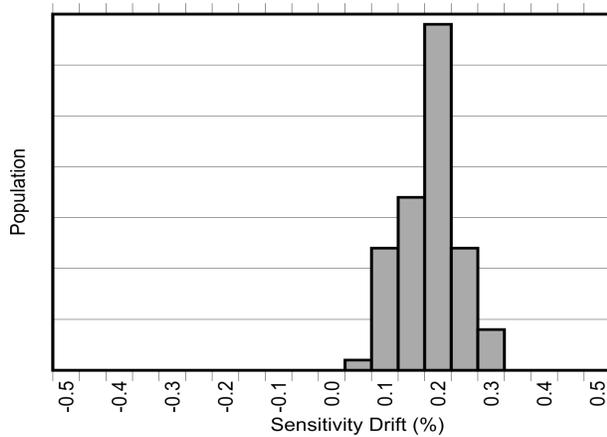
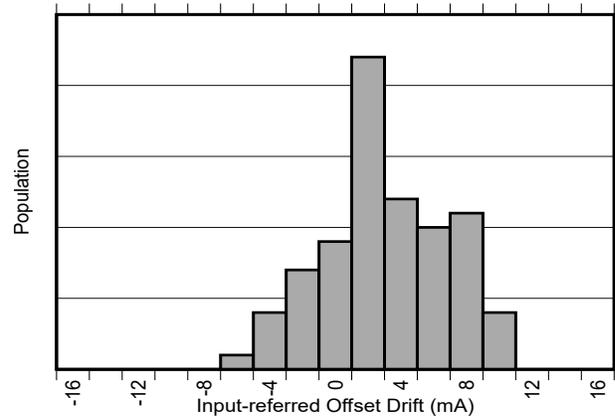

Figure 8-3. Sensitivity Error Drift After AEC-Q100 High Temperature Operating Life Stress Test
Figure 8-4. Input-Referred Offset Drift After AEC-Q100 High Temperature Operating Life Stress Test
In addition to large thermal drift, typical magnetic current sensors suffer an additional 2% to 3% drift in sensitivity due to aging over the lifetime of the device. The same proprietary compensation techniques used in the TMCS1133-Q1 to reduce temperature drift are also used to greatly reduce lifetime drift due to aging from stress and environmental conditions especially at high operating temperatures. As shown in the Electrical Characteristics, the TMCS1133-Q1 has industry leading lifetime sensitivity drift realized after Highly Accelerated Stress Tests (HAST) at 130°C and 85% relative humidity (RH) during standard three lot AEC-Q100 qualifications. Low sensitivity and offset drift within the bounds specified in the Electrical Characteristics are also observed after 1000 hour, 125°C high temperature operating life stress tests are performed as prescribed by AEC-Q100 qualifications. These tests mimic typical device lifetime operation, and show device performance variation due to aging is vastly improved compared with typical magnetic current sensors. Figure 8-3 and Figure 8-4 show the sensitivity and offset drift after a 1000 hour, 125°C high temperature operating life stress test as specified by AEC-Q100. Device operational performance varies over the lifetime of the device. This test mimics